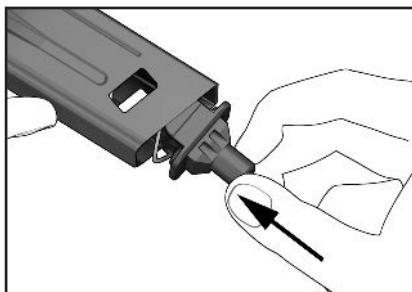

Figure 39
4. Push the locking plate into the magazine housing against the pressure of the magazine spring and hold it there. (Figure 39)